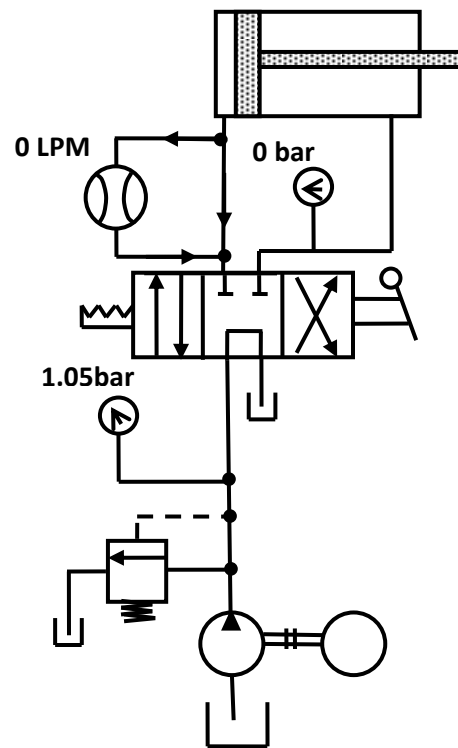

Figure 1.20 Application of 4/3-way valve – tandem neutral.
4. **Application of 4/3 DCV (tandem neutral) for controlling a double-acting cylinder:** Figure 1.20 shows it in a simple cylinder circuit. The pump flow is allowed to flow back to the tank through the DCV when it is in the neutral. This is a very desirable situation because only pressure in the pump line is due to the flow resistance of the lines and DCV. This keeps the pressure low when the valve is in the neutral. In this situation, the system is said to be unloaded because the power consumption is reduced. This wastes much less energy than does a closed central neutral that forces the fluid over the pressure relief valve at a high pressure. The cylinder is held in position with a tandem neutral because the outlet port is blocked.